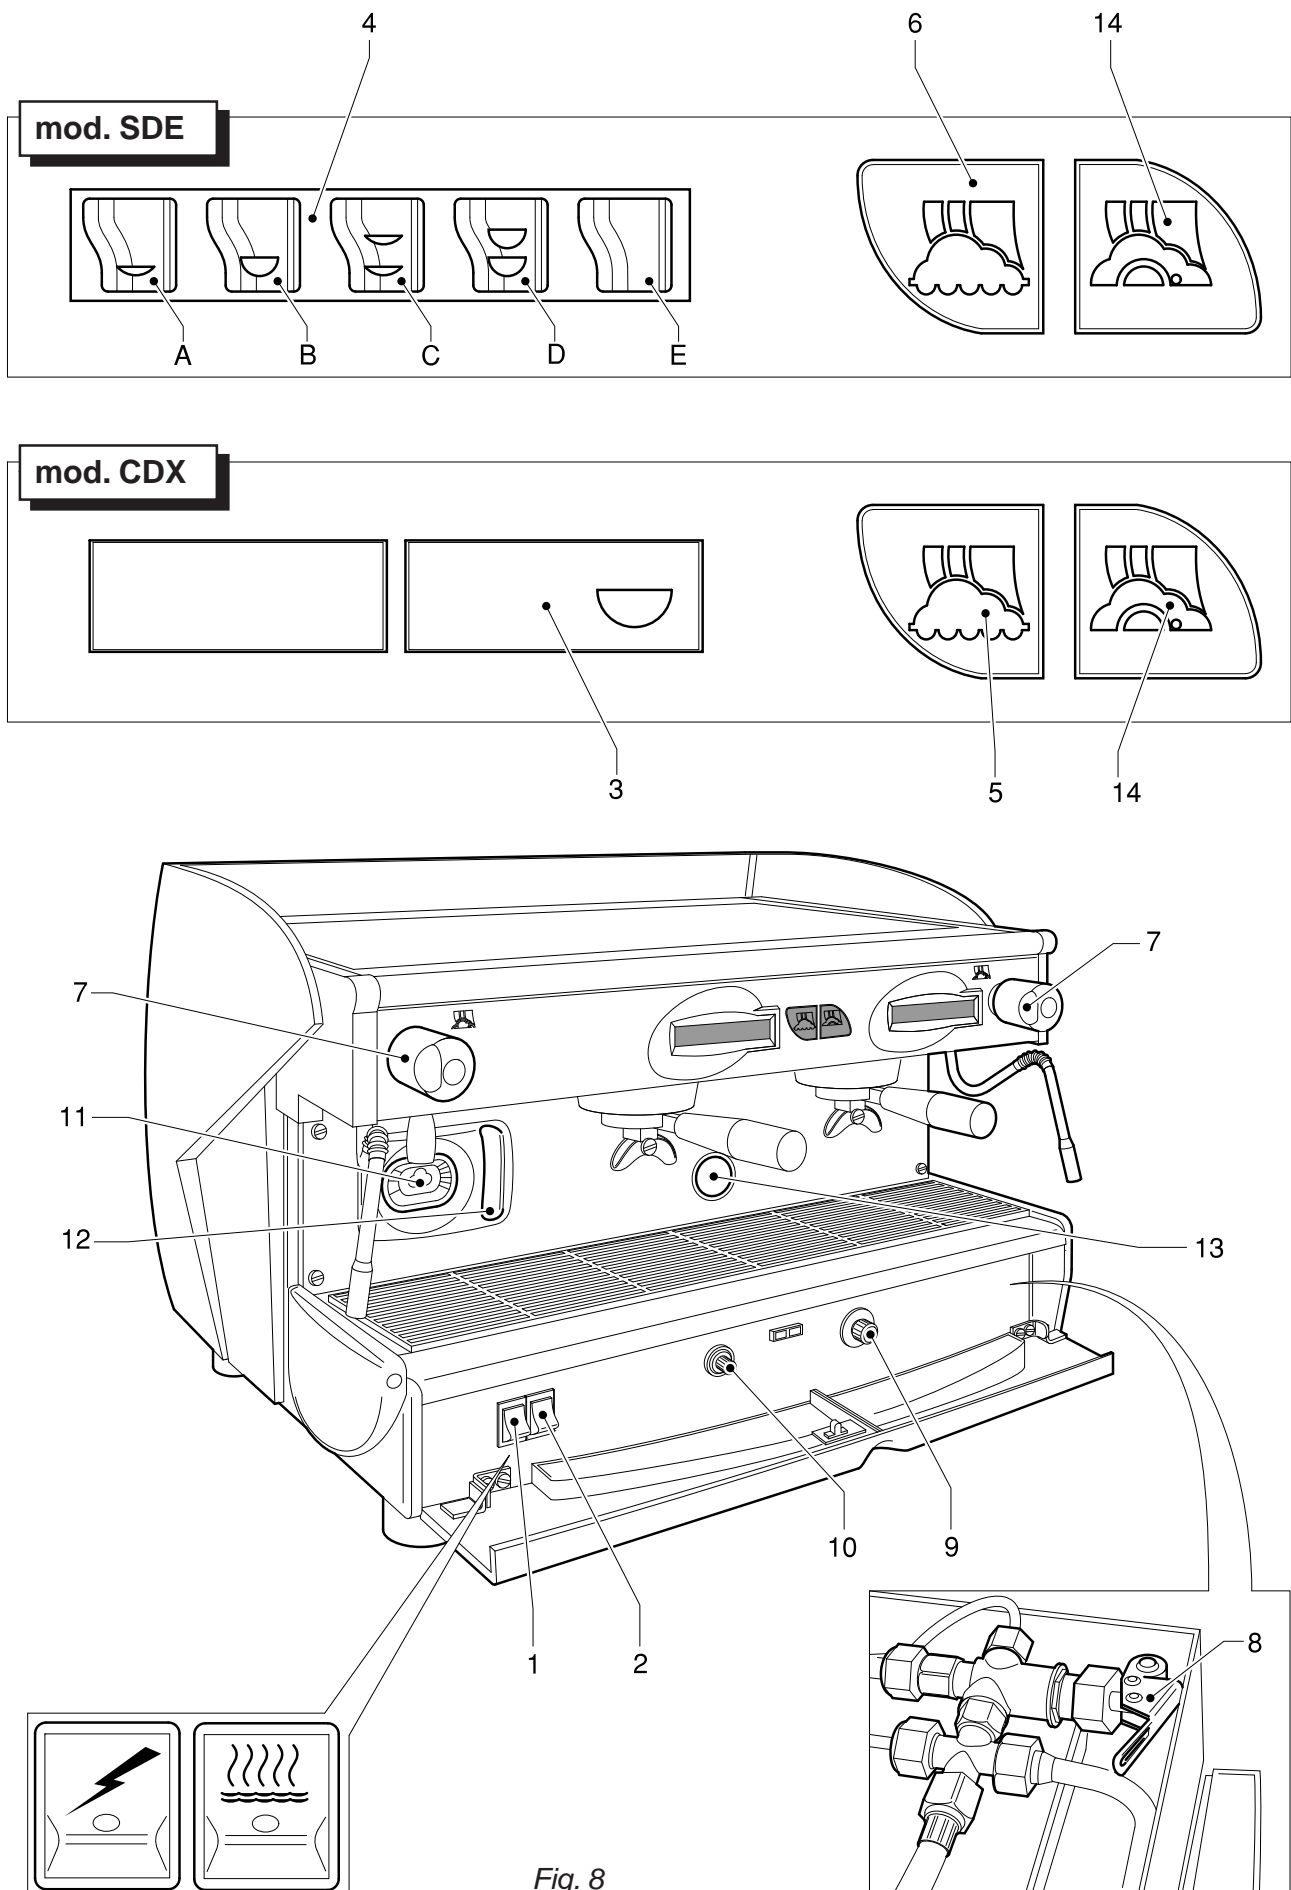

Fig. 8
7.1. Controls Fig.8
7.2. Control instruments (Fig.8)
Models with gas (Fig.8)
- Place the cups under the spouts and start pouring using control 3 or button panel 4 according to model (Fig.8).
- Gradually turn on the steam tap 7 Fig.8; the steam that bursts in the liquid heats it to the desired temperature.
- Place the jug under the hot water spout and use the delivery control according to the model (Fig.8). When the desired quantity has been obtained, turn off the switch.
- Hold down the delivery control 4-E Fig.8 for at least four seconds then release the button; the machine continuously delivers water.